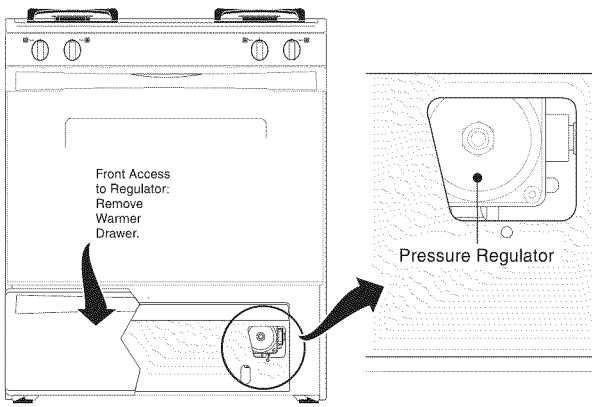

Fig. 2
- Pull the Warmer Drawer away from the range (some models) See Fig. 2).